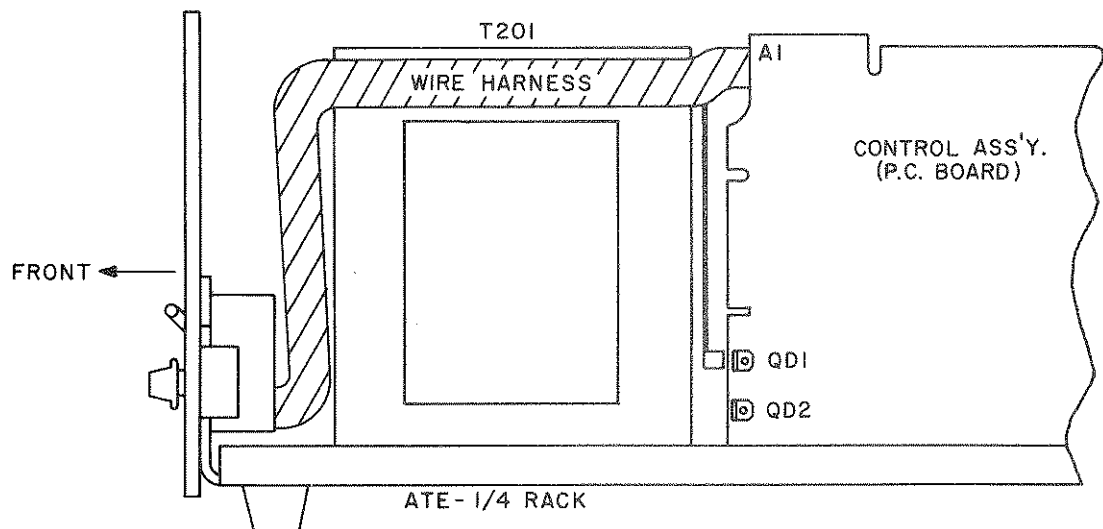

FIG. 2-5 LOCATION OF INTERNAL SIGNAL GROUND. SIGNAL GROUND NETWORK SHOWN CONNECTED VIA QD-1. TO REMOVE SIGNAL GROUND, PLACE WIRE LUG ONTO QD-2.
A resistor/capacitor network (R59, C27), is connected from the negative output terminal to the metal chassis of the power supply (via QD-1). If the internal signal ground is *not* desired, the connection to the chassis can be opened by changing the wire lug position from QD-1 to QC-2 (See FIG. 2-5).
- STEP 1: Remove Links (19)-(20) and (43)-(45) on PC-12. This removes the output capacitor (C_o).
- STEP 2: Remove jumper (45)-(47) on PC-12. This removes the main feedback capacitor (C_f).
- STEP 3: Connect wire jumper on PC-12 from (26) to (27). This connects a lag network.
- STEP 4: Refer to Section II, FIG 2-5 and remove the internal grounding network.
- STEP 5: Connect wire jumper from (39) to (48) on PC-12. This introduces a required delay in the crowbar circuit.